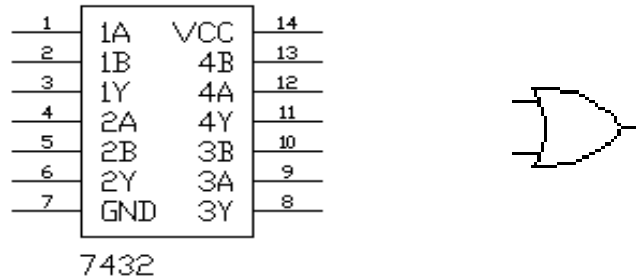

Figure 6.2
1. Figure 6.2 shows the pin layout for the 7432 IC which contains four OR logic gates.